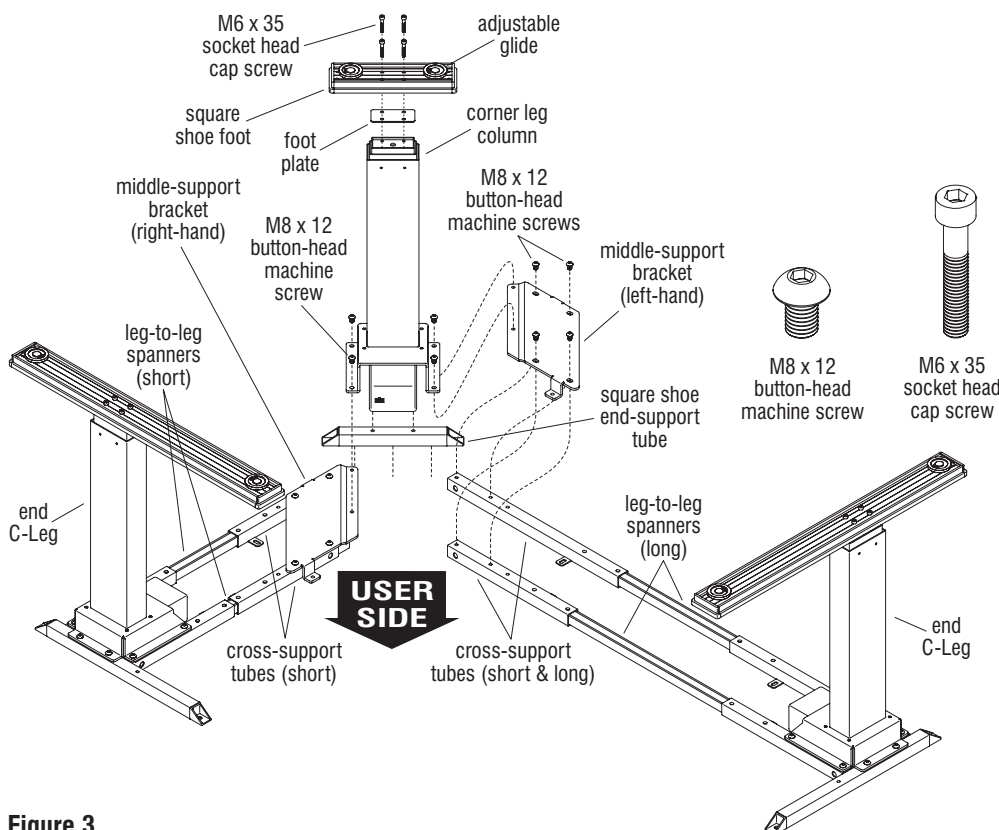

Figure 3
Align the holes of the middle support bracket with the support tube mounting holes and secure with four M8 x 12 button-head machine screws (Figure 3).
2. Place the square shoe end-support tube between the two cross-support tube assemblies as illustrated in Figure 3.
3. Position the corner leg column over the square shoe end-support tube and two middle-support bracket's flanges, then align six mounting holes of the leg column with appropriate mounting holes of the two brackets and tube as illustrated in Figure 3 and Detail D. Using six M8 x 12 button head machine screws torqued to 9.5 ft/lb, secure the flange of the leg column to the square shoe end-support tube and middle-support brackets (Figure 3 & Detail D).
4. Assemble the square shoe foot to the leg column by first positioning a plastic foot plate over the mounting location on the leg column. The foot plate must be oriented so the raised flange faces into the column, to nest the foot plate into place. Next, position the square shoe foot over the foot plate and leg column as illustrated, with the mounting holes of the foot aligning with those of the leg column. Secure the foot to the leg column with four M6 x 35 socket head cap screws. Torque to 7.5 ft/lb (Figure 3).